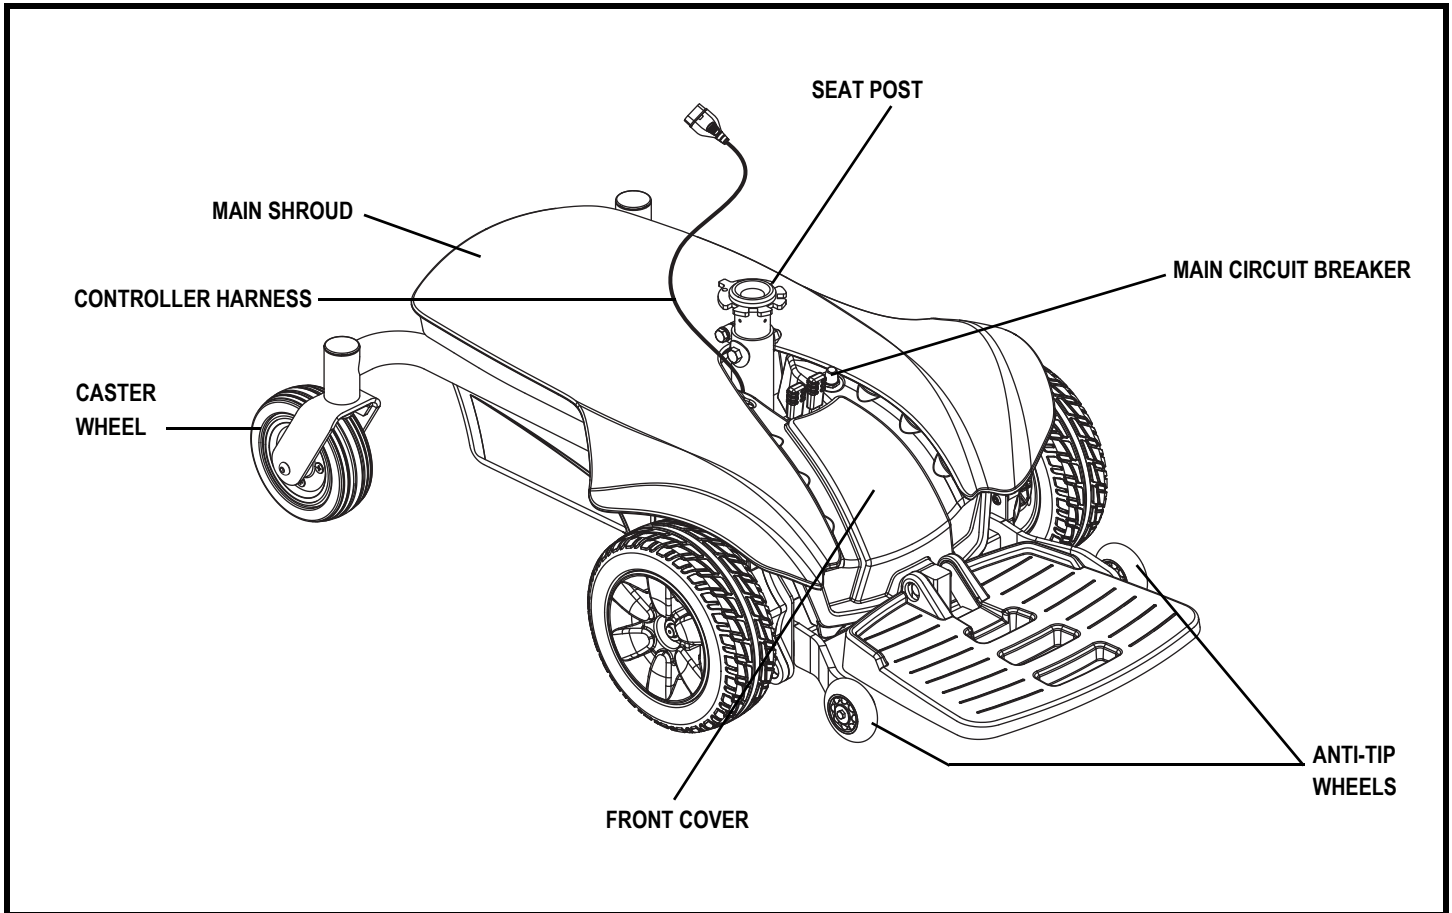

Figure 6. The Jazzy Select Elite Power Base
5. Plug the controller harness into the connector on the power base. See figure 6.